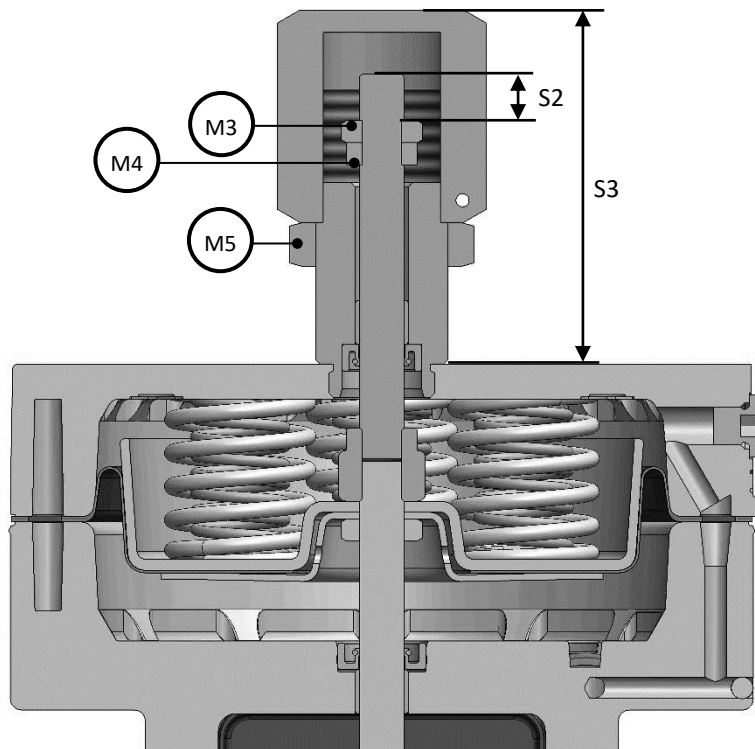

Figure 5: Stroke limiter & travel stop for MA25
- Dismantle the cover of the stroke limitation (see figure 5).
- Screw the M5 nut down as far as it will go (see Fig. 5).
- Dismantle the stroke limitation cover (see Fig. 5).